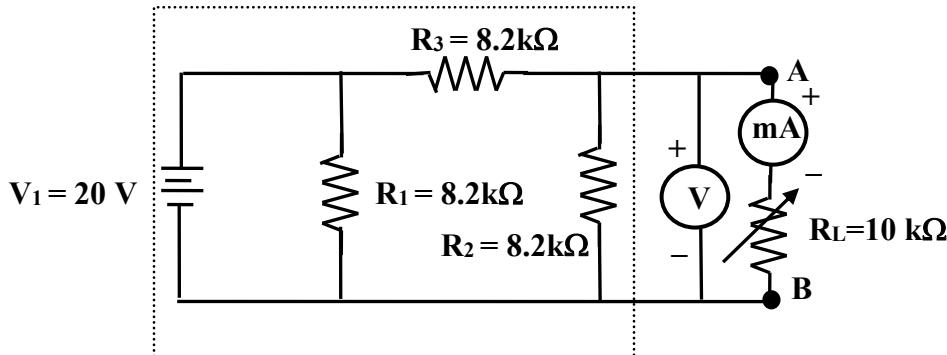

Figure 2: Measurement of V_{RL} and I_{RL}
2. Connect the circuit drawn (Figure 2) in step1.